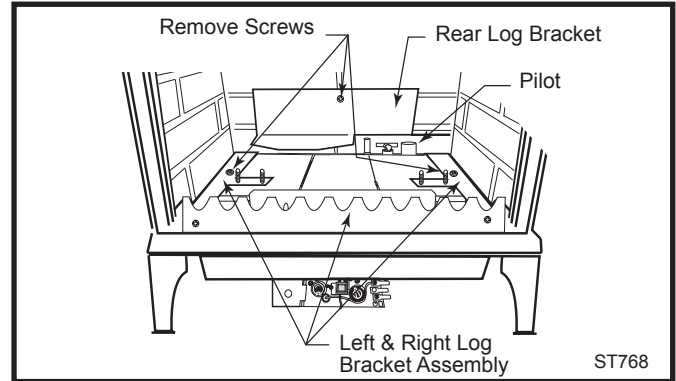

Fig. 49 Remove rear log bracket and left and right log bracket assembly.
5. Remove the rear log bracket by unfastening the screw. (Fig. 49)
6. Remove the right and left log bracket assembly by unfastening the two screws which hold the burner in place. (Fig. 49)
1. Locate pilot. (Fig. 49)